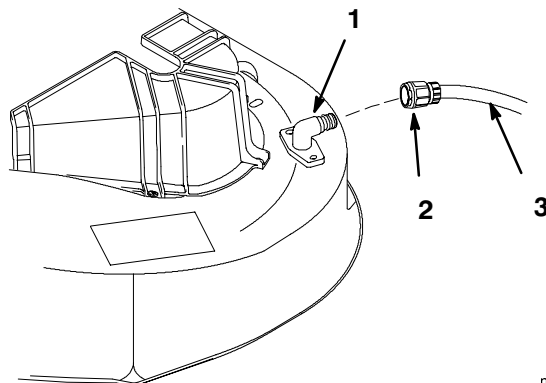

Figure 57
2. Attach hose coupling to the end of the mower washout fitting, turn water on high (Fig. 57).